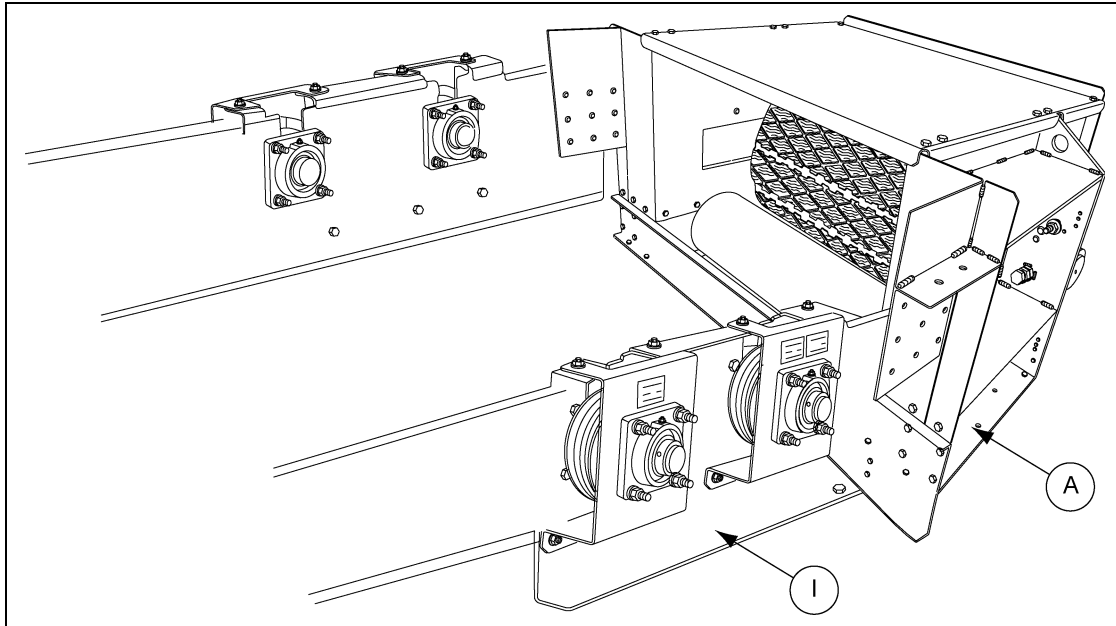

Figure 4C
1. Install head end trunking. (See Figure 4C.)